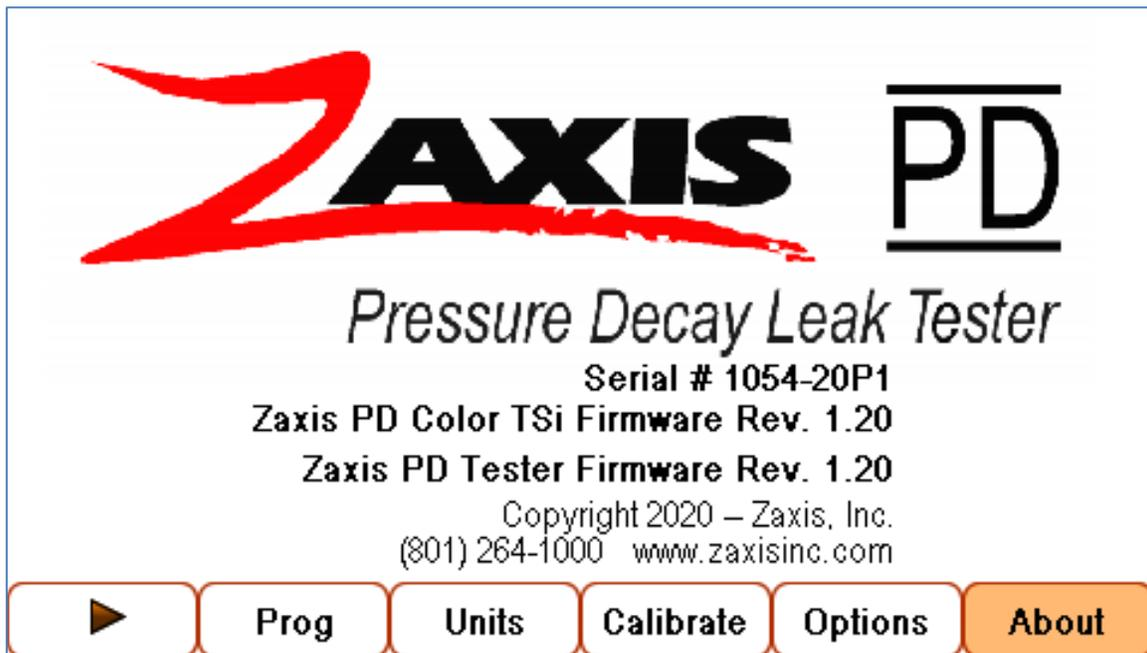

Fig. 3. About Screen for the Zaxis PD.
-  **About** — Lists the firmware revision level, serial number, and contact info for Zaxis. (see Fig 3.)